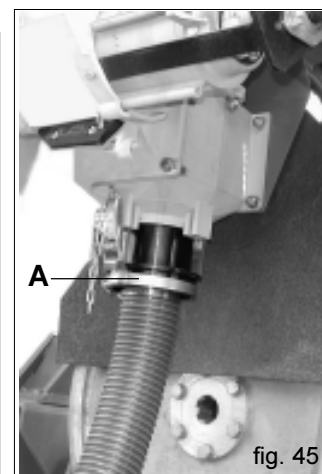

fig. 45
- b) Remove the bend under the injecting tube, and then attach the collecting tube supplied with the machine (A Fig. 45) in the same position and place a collecting container at the other end of the tube; turn the transmission wheel in the direction of travel using the handle.